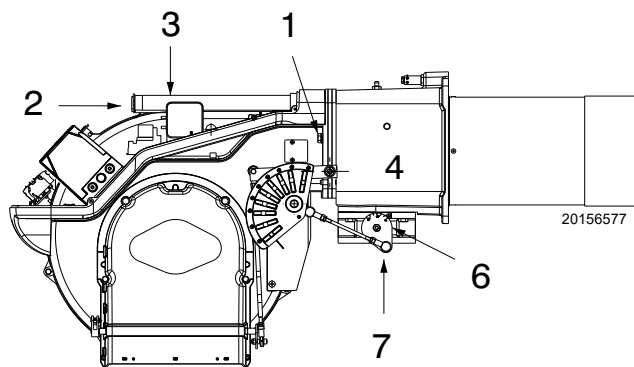

Fig. 19
- reassemble the burner on slide bars 3)(Fig. 19), about 100 mm from the pipe coupling 4)(Fig. 19);
- Fix the burner to the pipe coupling with screws 1)(Fig. 19).
- Reconnect the articulated coupling 7) to the graduated sector 6)(Fig. 19).